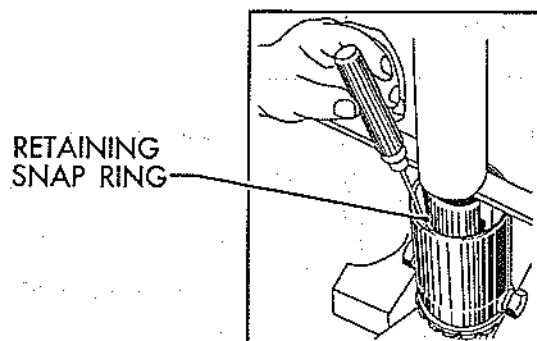

Figure 79
(7) Insert the retaining snap ring against the spring and valve assembly, as shown in Fig. 79. This must be done carefully to avoid damaging internal parts.